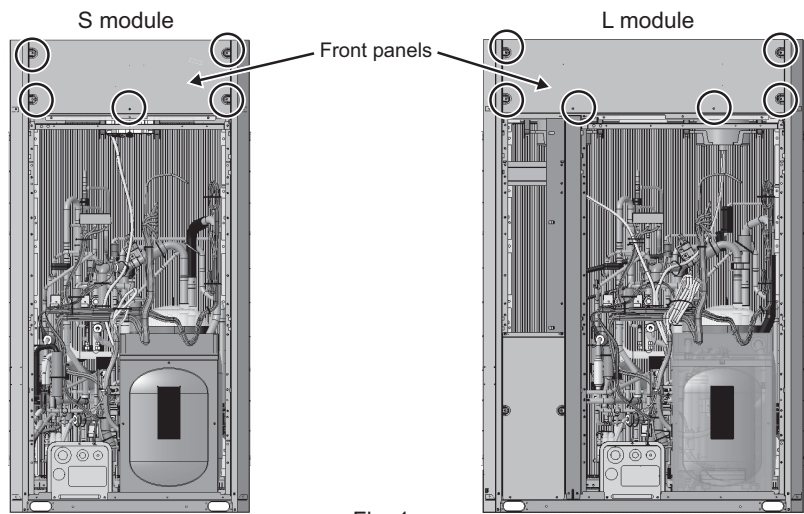

Fig. 1
(1) Remove the front panels. (Five screws on S module, six screws on L module: Fig. 1)